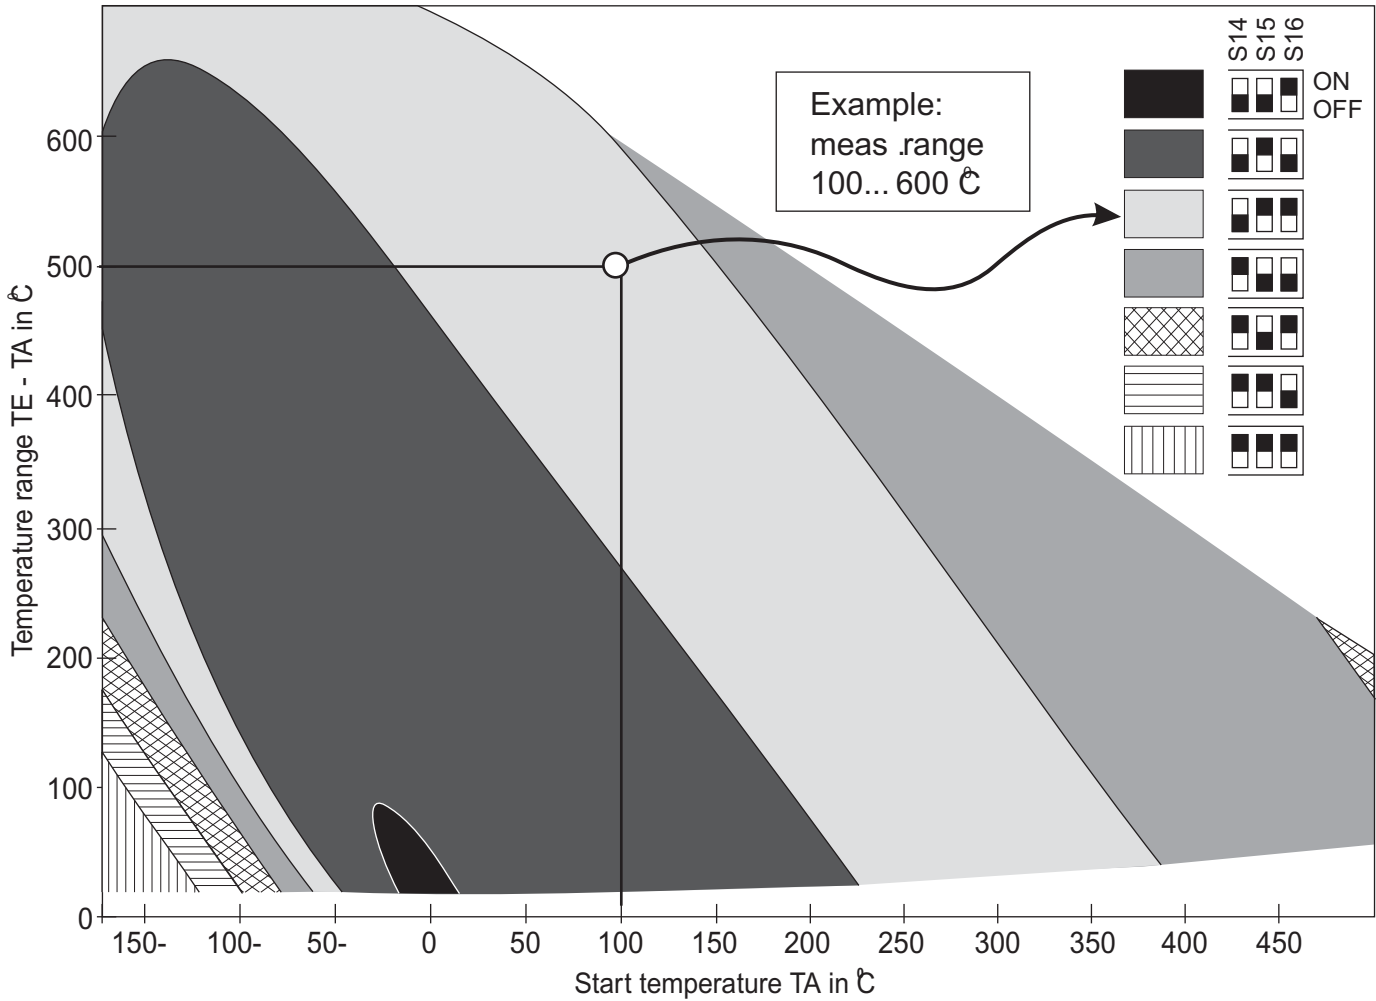

Fig .9 .Switch positions (S...14S16) for linearisation.
A switch combination has to be set to linearise the range that depends on the minimum value of the measuring range (TA) and the temperature range (TE - TA) .Fig 9 .shows how the switch positions are determined for the example of a measuring range of 600...100°C .The correct switch positions for this example are" OFF-ON-ON."